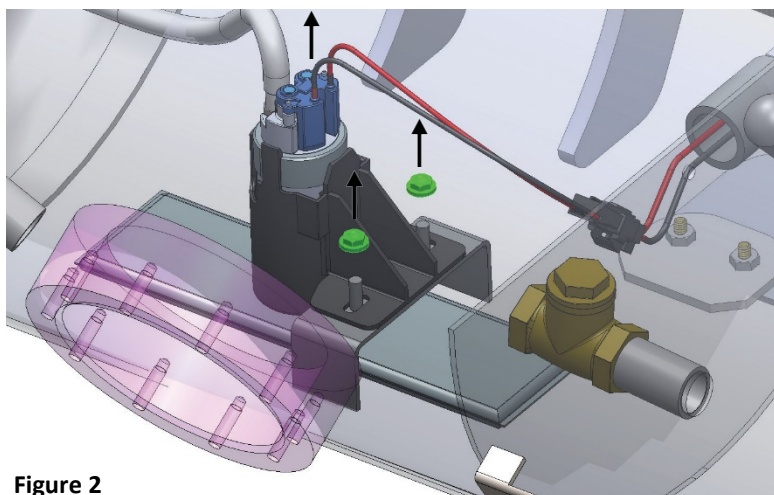

Figure 2
4. Remove fuel pump retaining nuts (Qty: 2) and washers (Qty: 2) (Figure 2)
5. Remove fuel pump by lifting straight up. (Figure 2)